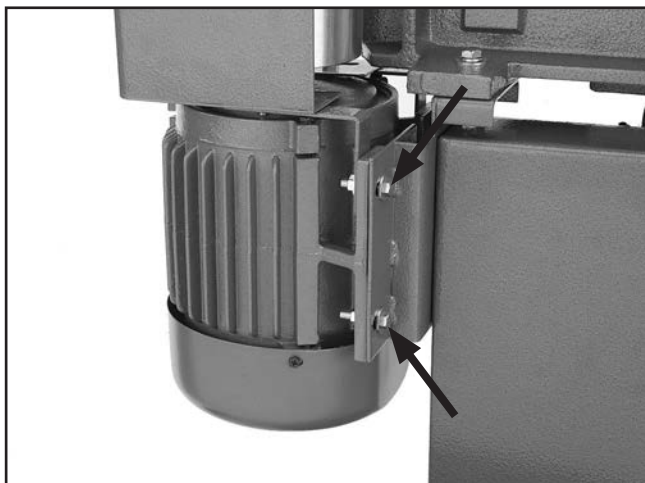

Figure 56. Two of the four motor mount bolts.
3. Loosen the four motor mount bolts/nuts that secure the motor to the motor bracket. **Figure 56** shows two of the four motor mount bolts.